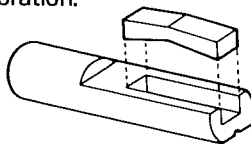

FIGURE 4
2. Place original dial, using shaft adaptors\*, on dial shaft. Measure distance from back of dial to panel front. \*See figure 4 for assembly of spring clip adaptor.